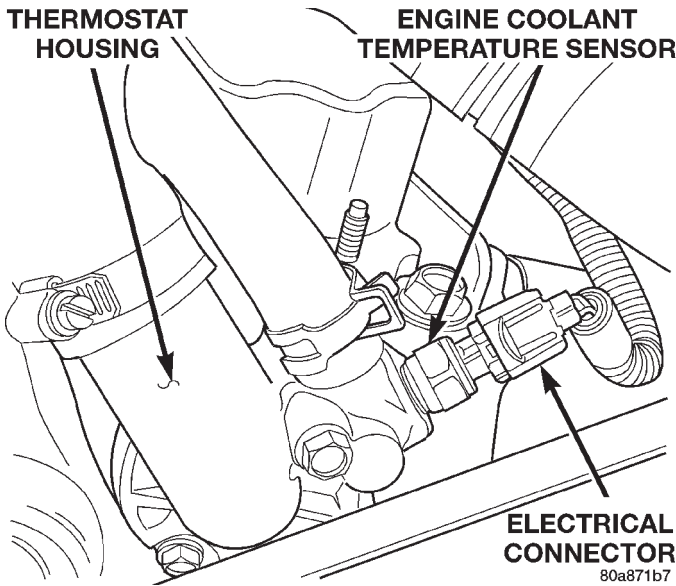

Fig. 36 Engine Coolant Temperature Sensor—Typical
(1) Disconnect wire harness connector from coolant temperature sensor (Fig. 36).
(2) Test the resistance of sensor with a high input impedance (digital) volt-ohmmeter. Refer to SENSOR RESISTANCE (OHMS)—COOLANT TEMPERATURE SENSOR/INTAKE AIR TEMPERATURE SENSOR chart. The resistance (as measured across sensor terminals) should be within range shown in chart. If not, replace sensor.
(3) Test continuity of the wire harness between the PCM wire harness connector and the coolant sensor connector terminals. Refer to Group 8, Wiring for terminal/cavity locations. Repair the wire harness if an open circuit is indicated.